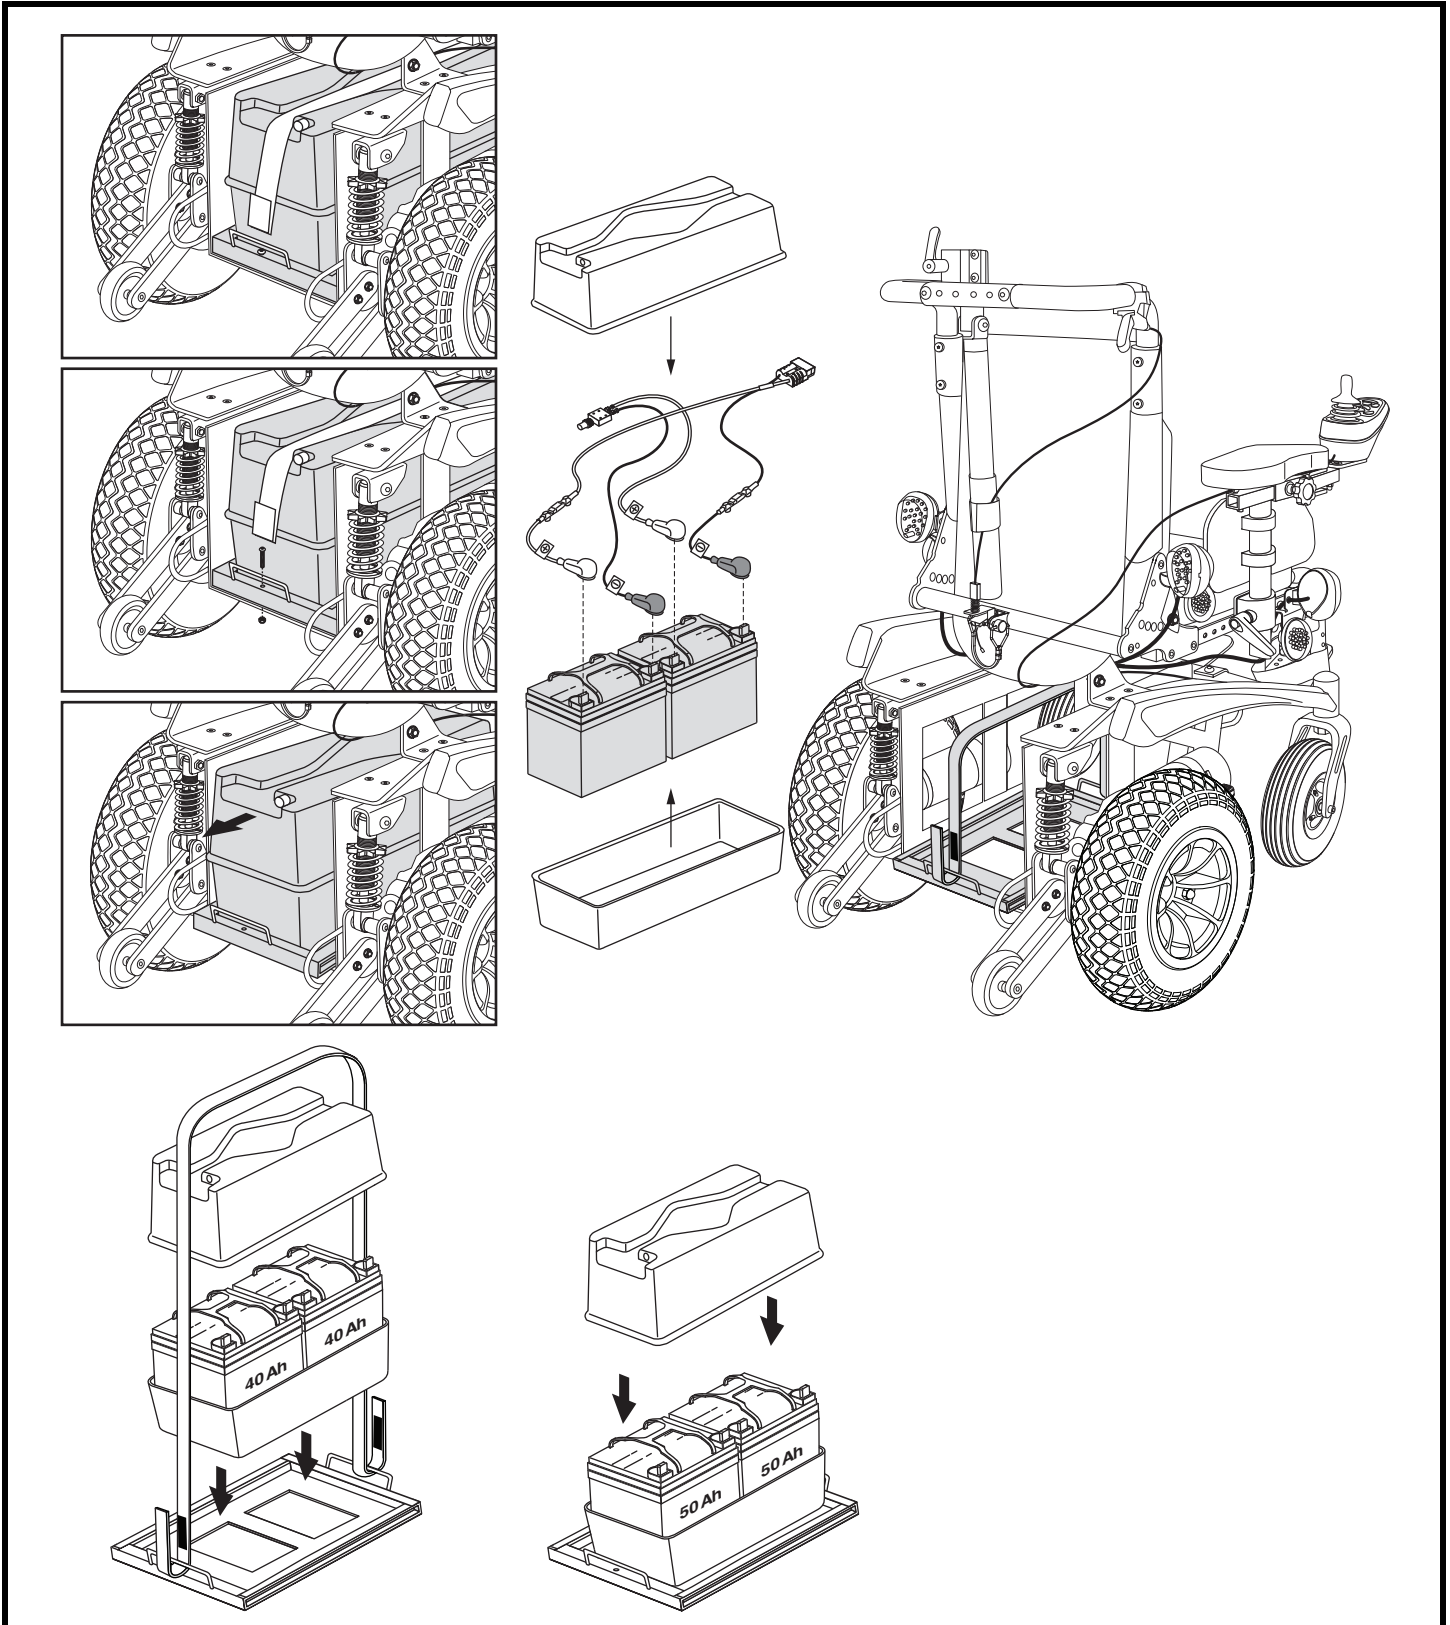

Figure 29. Battery Replacement
A battery wiring diagram is printed on a decal located on the battery door. See figure 29. Refer to the specifications table for correct battery specifications.
4. Slide the battery tray back. **See figure 29.**
8. Install the new batteries into the battery box. **See figure 29.**
11. Slide the battery tray back into place and reinstall the battery securement hardware. **See figure 29.**